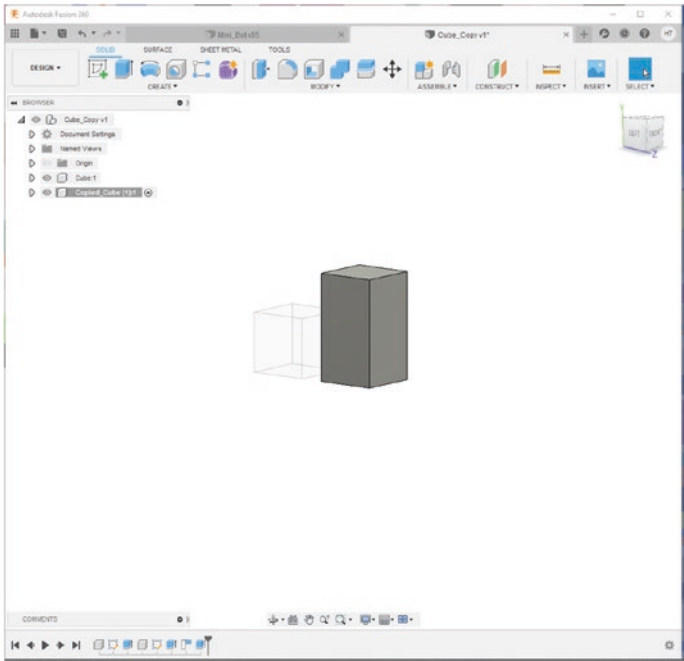

Figure 8-6. *The pasted component is a completely separate component*
6. Notice that if you select the copied cube and change it, the original does not change with it. See Figure 8-6.